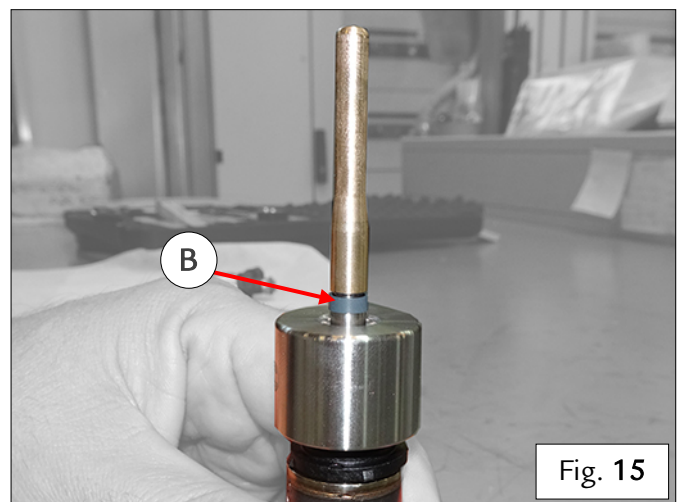

Fig. 15
- Ensure that the O-ring (B) is fitted correctly in its seat - Fig. 15.